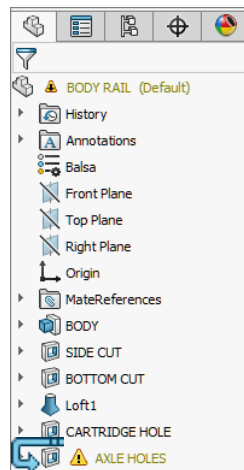

Fig. 61
Step 3. Move **AXLE HOLES** below **CARTRIDGE HOLE** feature, **Fig. 61**. To move the feature, drag **AXLE HOLES** down, when the cursor  is over **CARTRIDGE HOLE** - release. **Ignore the What's Wrong warning.**